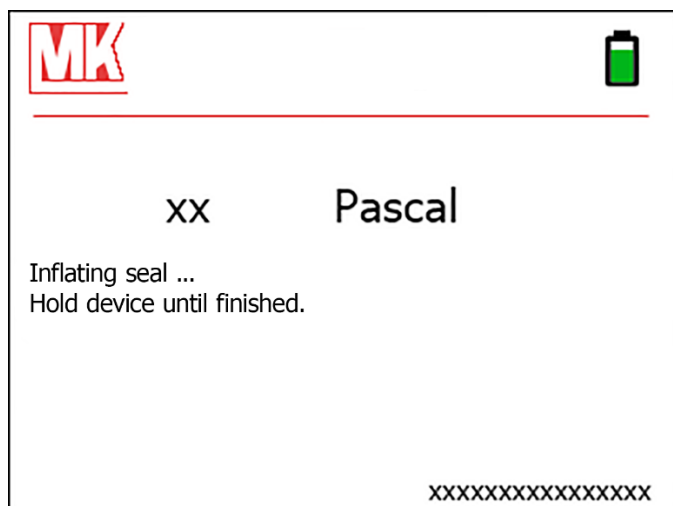

Figure 7: Display, Inflate the seal
- ⇒ The display will show a message that the seal is being inflated and a request to hold the unit until the seal is completely inflated (figure 7).
5. Hold the Glove Test Device in the port until the display (figure 7) disappears. Only then is the Glove Test Device firmly connected to the port.